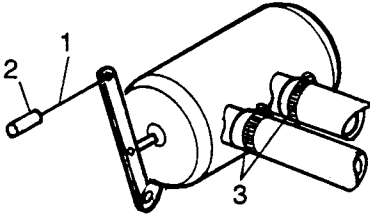

Fig N3.6
- (2) Refer to Fig N3.6. Slacken the inner (1) and outer (2) cable fixings.
- (3) Free the inner cable and withdraw from the valve.
- (4) Release the heater hose clips (3) and slide the hoses away from the valve.
- (5) Remove the fixings and lift out the valve.